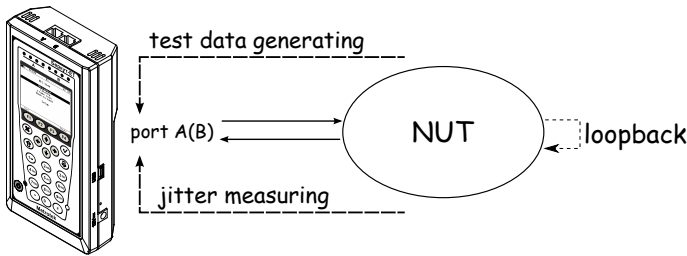

Figure 5.92. Jitter measurements. Scheme 1
- test data is generated and then jitter is measured at the same port (see fig. 5.92);